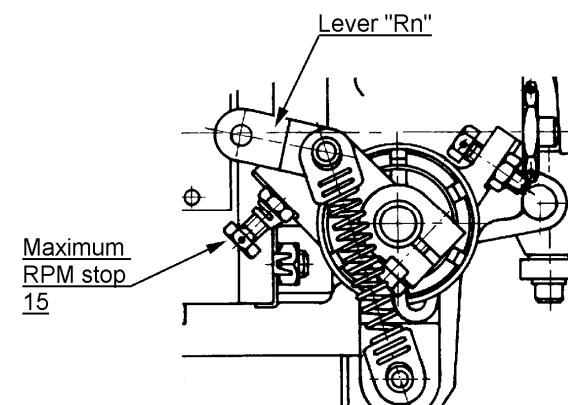

Figure 11-29 Maximum RPM stop adjustment
- b) Loose stop  - figure 11-29.